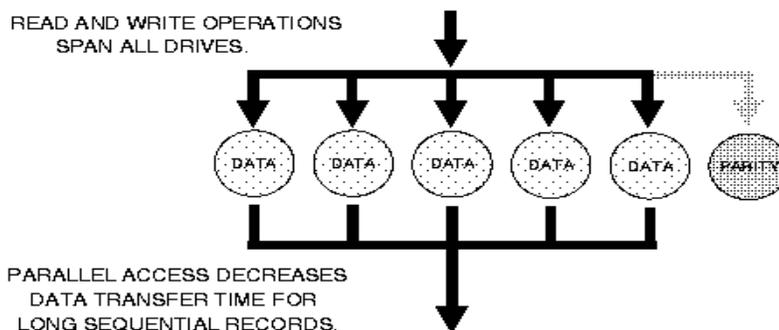

Figure 45. Parallel Array with Parity
**RAID-3**, as with RAID-2, sector-stripes data across groups of drives, but one drive in the group is dedicated to storing parity information. RAID-3 relies on the embedded ECC in each sector for error detection. In the case of drive failure, data recovery is accomplished by calculating the exclusive OR (XOR) of the information recorded on the remaining drives. Records typically span all drives, thereby optimizing disk transfer rate. Since each I/O accesses every drive in the array, RAID-3 arrays perform only one I/O at a time and thus deliver best performance in single-user, single-tasking environments with long records. Synchronized-spindle drives are required for RAID-3 arrays in order to avoid performance degradation with short records. Since RAID-5 arrays with small stripes can yield similar performance to RAID-3 arrays, RAID-3 is not supported by SCSI RAID adapter, Figure 45.